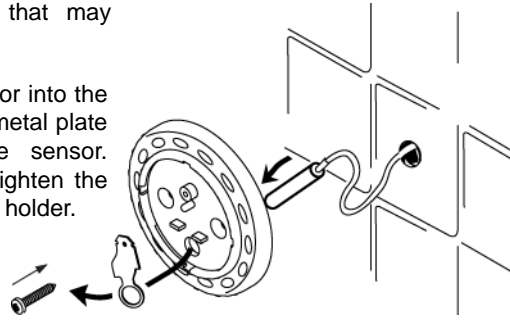

Figure 3
6. Apply silicone sealant on the hole in the wall to create a moisture seal (Fig. 3). Make sure that there is no trace of silicone on the sensor as it may interfere its reading.